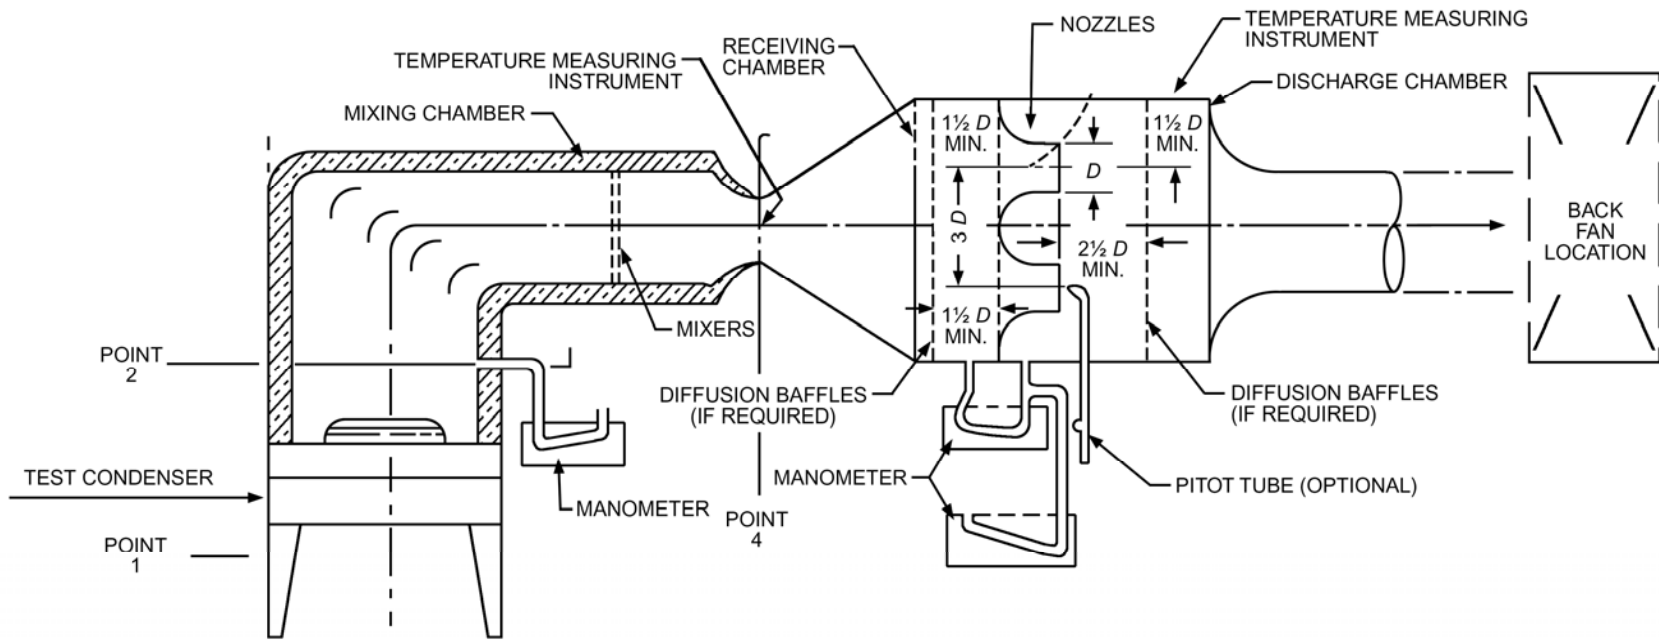

Figure 2 Recommended airflow- and temperature-measuring apparatus.
- 5** **Figure 2 Recommended airflow- and temperature-measuring apparatus.** Replace the current figure with the one shown below.